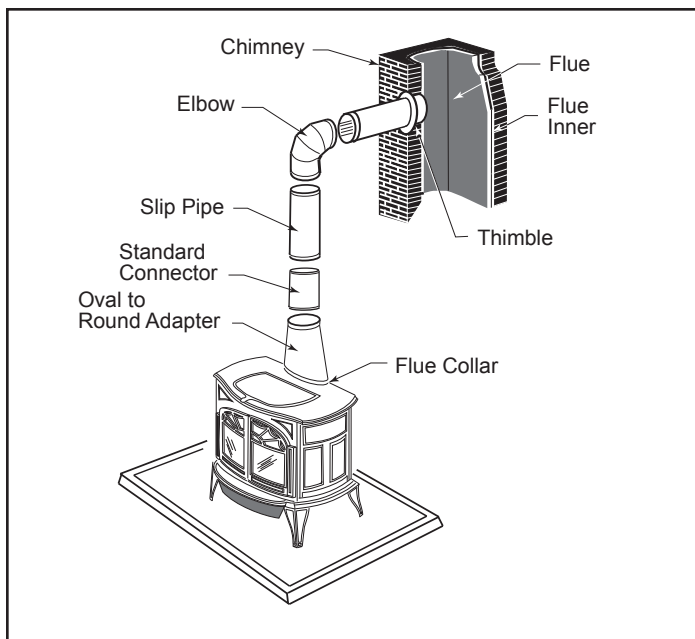

Figure 6 - An exploded view of the chimney connection in a freestanding masonry installation.
- Fasten each joint between sections of chimney connector, including telescoping joints, with at least three (3) sheet metal screws. The pre-drilled holes in the top of each section of chimney connector serve as guides when you drill 1/8" (3 mm) holes in the bottom of the next section. Furnace cement may be used to seal the oval-to-round adapter to the flue collar.
- Fasten the chimney connector to the chimney. Instructions for various installations follow. Figure 6 illustrates the general layout of chimney connector parts.